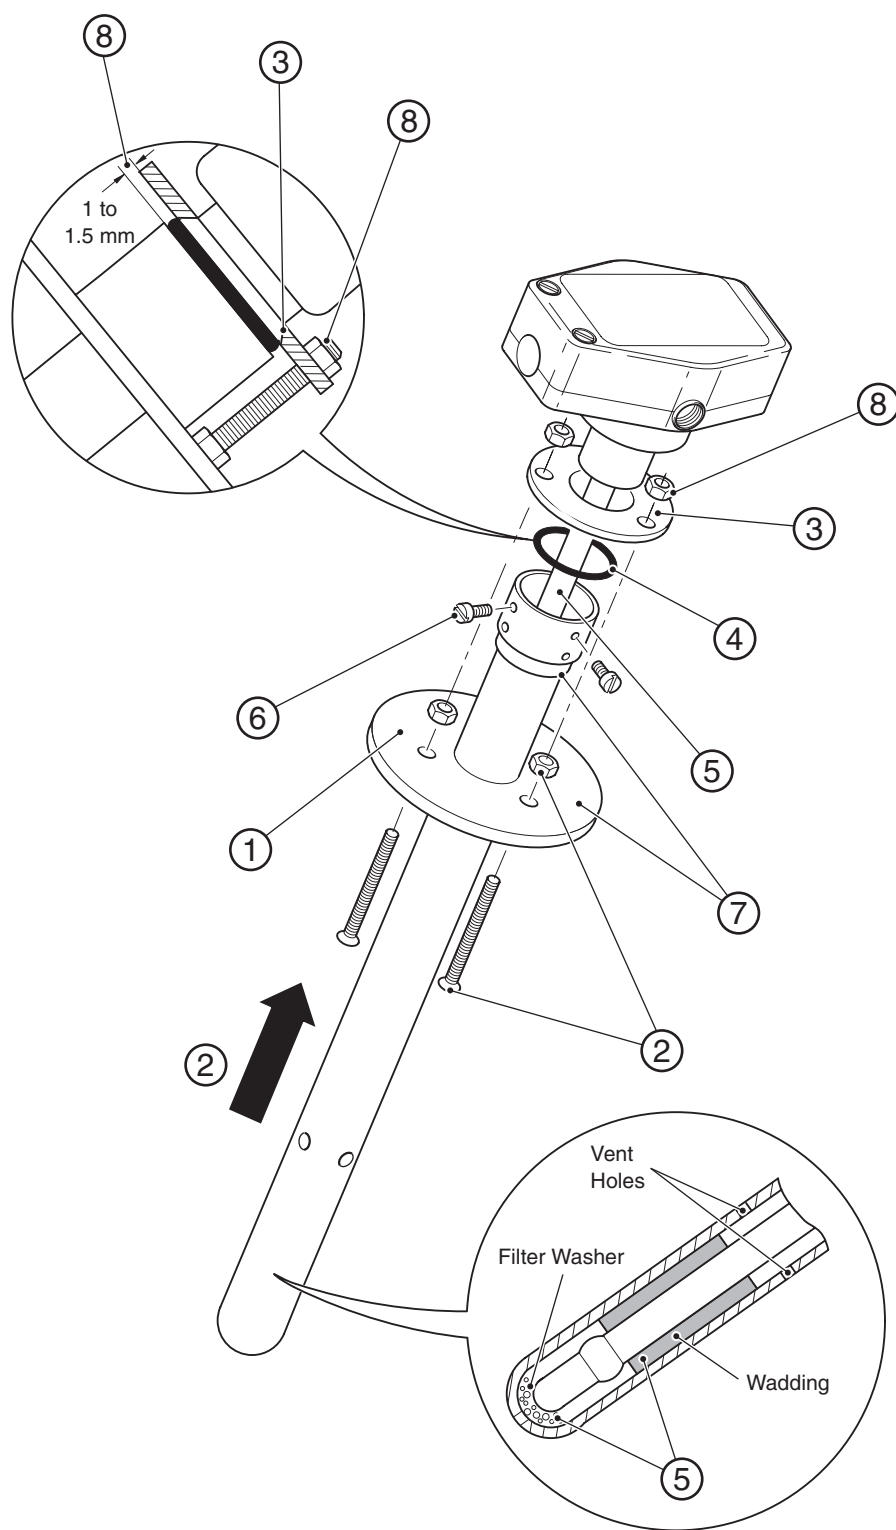

Fig. 2.1 Assembling the Probe
2.3 Assembling the Probe – Fig. 2.1
Introduce a test gas of known concentration around the outer electrode in the space between the filter washer, at the bottom of the sheath, and the wadding around the lower end of the probe – see Fig. 2.1. Four vent holes prevent the gas from being trapped in the upper part of the sheath.